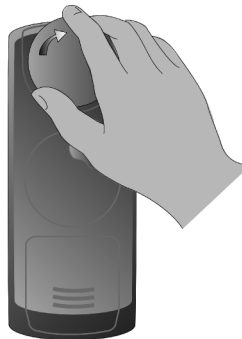

Figure 8. Unlocking the magnet from the programming head.
1. Unlock the magnet from the programming head by turning the magnet (Figure 8).